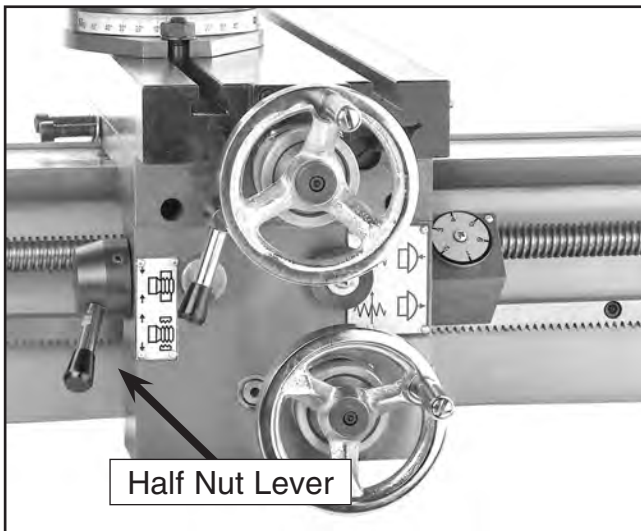

Figure 40. Half nut lever disengaged.
The half nut lever is located under the left hand side apron (**Figure 40**). This handle may be engaged and disengaged while the machine is running and while making a cut. Move the lever to the down position to engage the half nut. Because the threads of the nut and leadscrew will not always be aligned, engaging the half nut may require waiting until they align, with the machine running. Lift the handle in the direction of the arrow as shown in **Figure 40**. **DO NOT** force the handle, apply light pressure to the handle and when the threads are aligned the handle will engage.
- In the case of the apron, motion starts by engaging the half nut lever, shown in **Figure 40**.